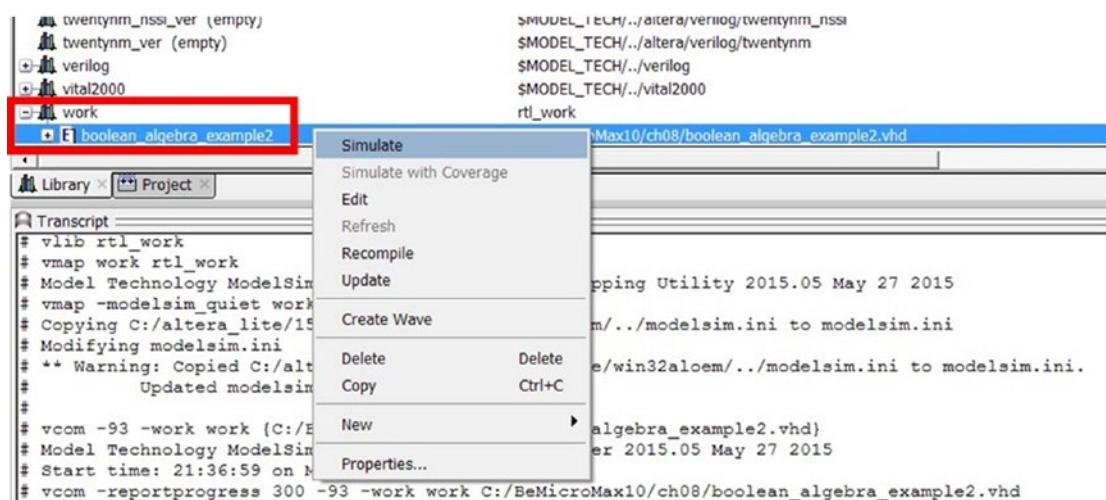
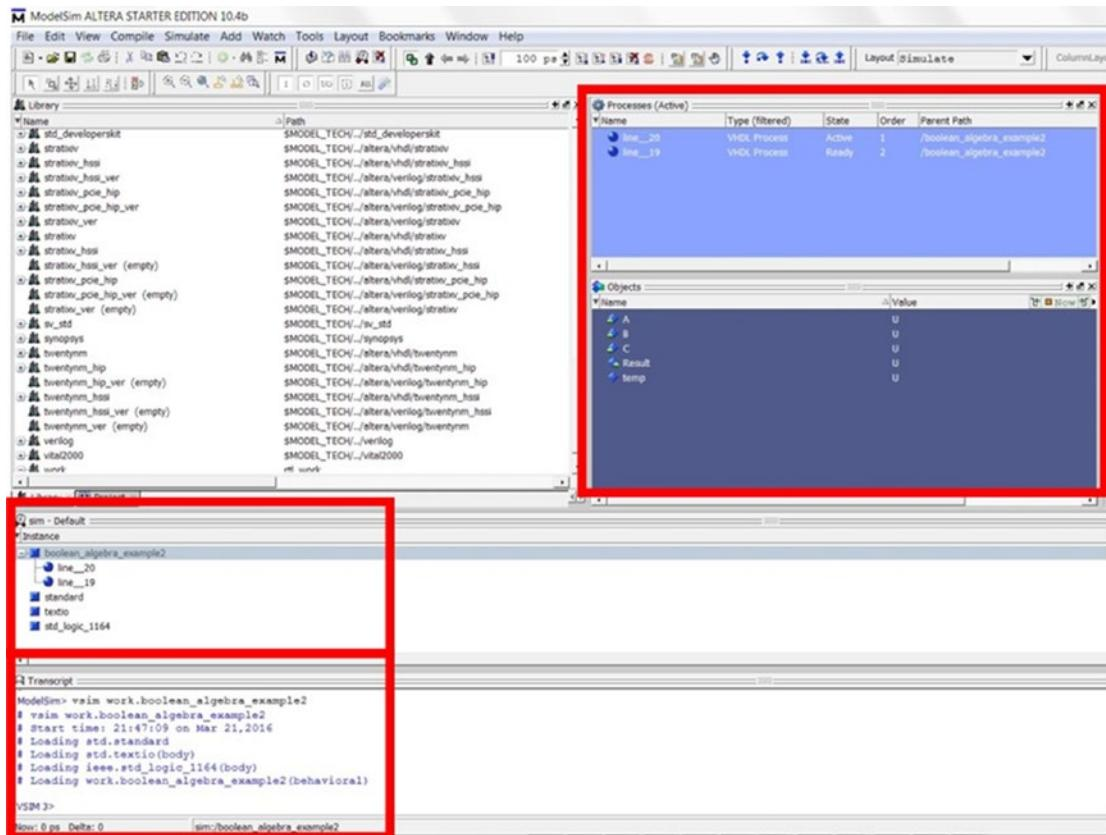

Figure 8-13. Start simulation
Figure 8-14. New section started in ModelSim when simulation was started
- In the Library Window, click the cross next to the work library and right-click on boolean_algebra_example2. Click **Simulate**. Or type **vsim work.boolean_algebra_example2** in the transcript box shown in Figure 8-13. ModelSim should show something like Figure 8-14. It will have Sim, Transcript, Processes, and Objects windows.